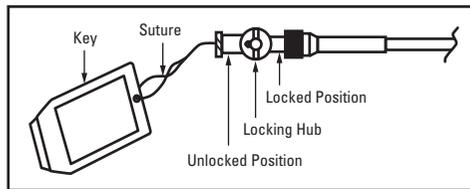

Figure 1. Suture Locking Mechanism
2. To lock the pigtail in its position, gently pull the suture until resistance is felt. Holding the suture, insert the "key" into the slot of the locking hub and rotate the locking hub clockwise 180 degrees. The arrow will point to the "Locked" position. This position locks the pigtail in place but leaves the lumen open for flushing and draining. See Figure 1.